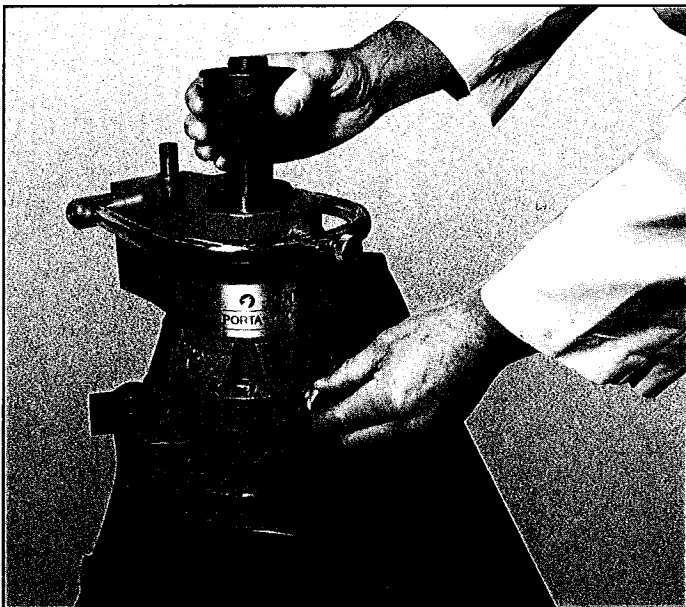

Figure 6
5. Retract the cutter plate from the bore and lock it in the full up position. (See Figure 6)